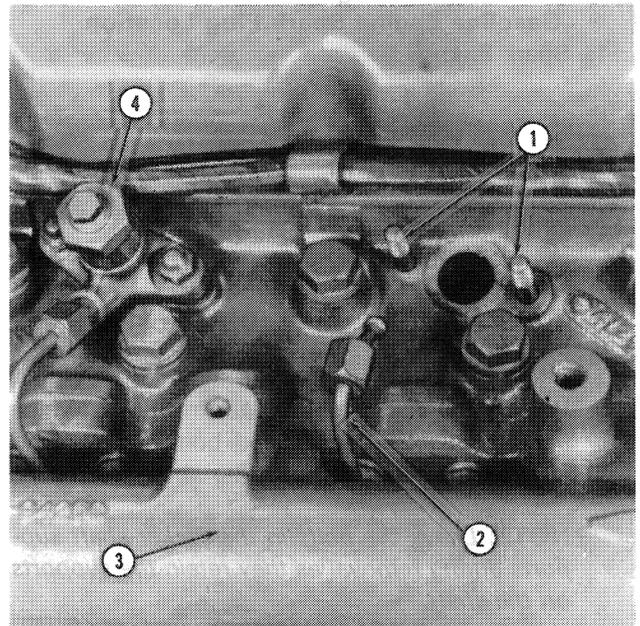

Figure 4
12. Disconnect the fuel injector leak-off pipes. Clean the area surrounding the fuel injectors then remove the stud nuts and carefully withdraw the fuel injectors and washers, Figure 4.